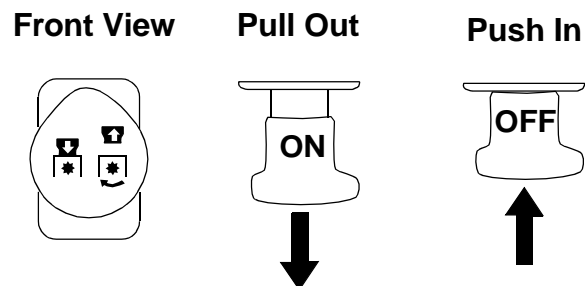

Figure 7
- Pull the PTO knob outward into the engaged (ON) position. See Figure 7.